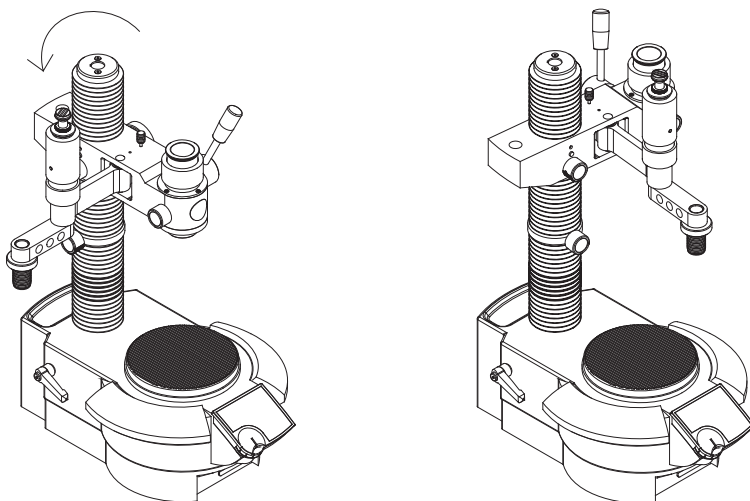

Fig 4: Support arm, swivelling
1. The *articulated arm 7* (fig 1) of the F4 basic Milling Machine is released from its locked position while the assigned *articulated arm fixing pin 9a* (fig 1) is pulled out and placed in its *park position 9b* (fig 1). The horizontal support arm is jack-knifed (fig 4) so that the working area is freely accessible via the magnetic worktop for the articulated arm.